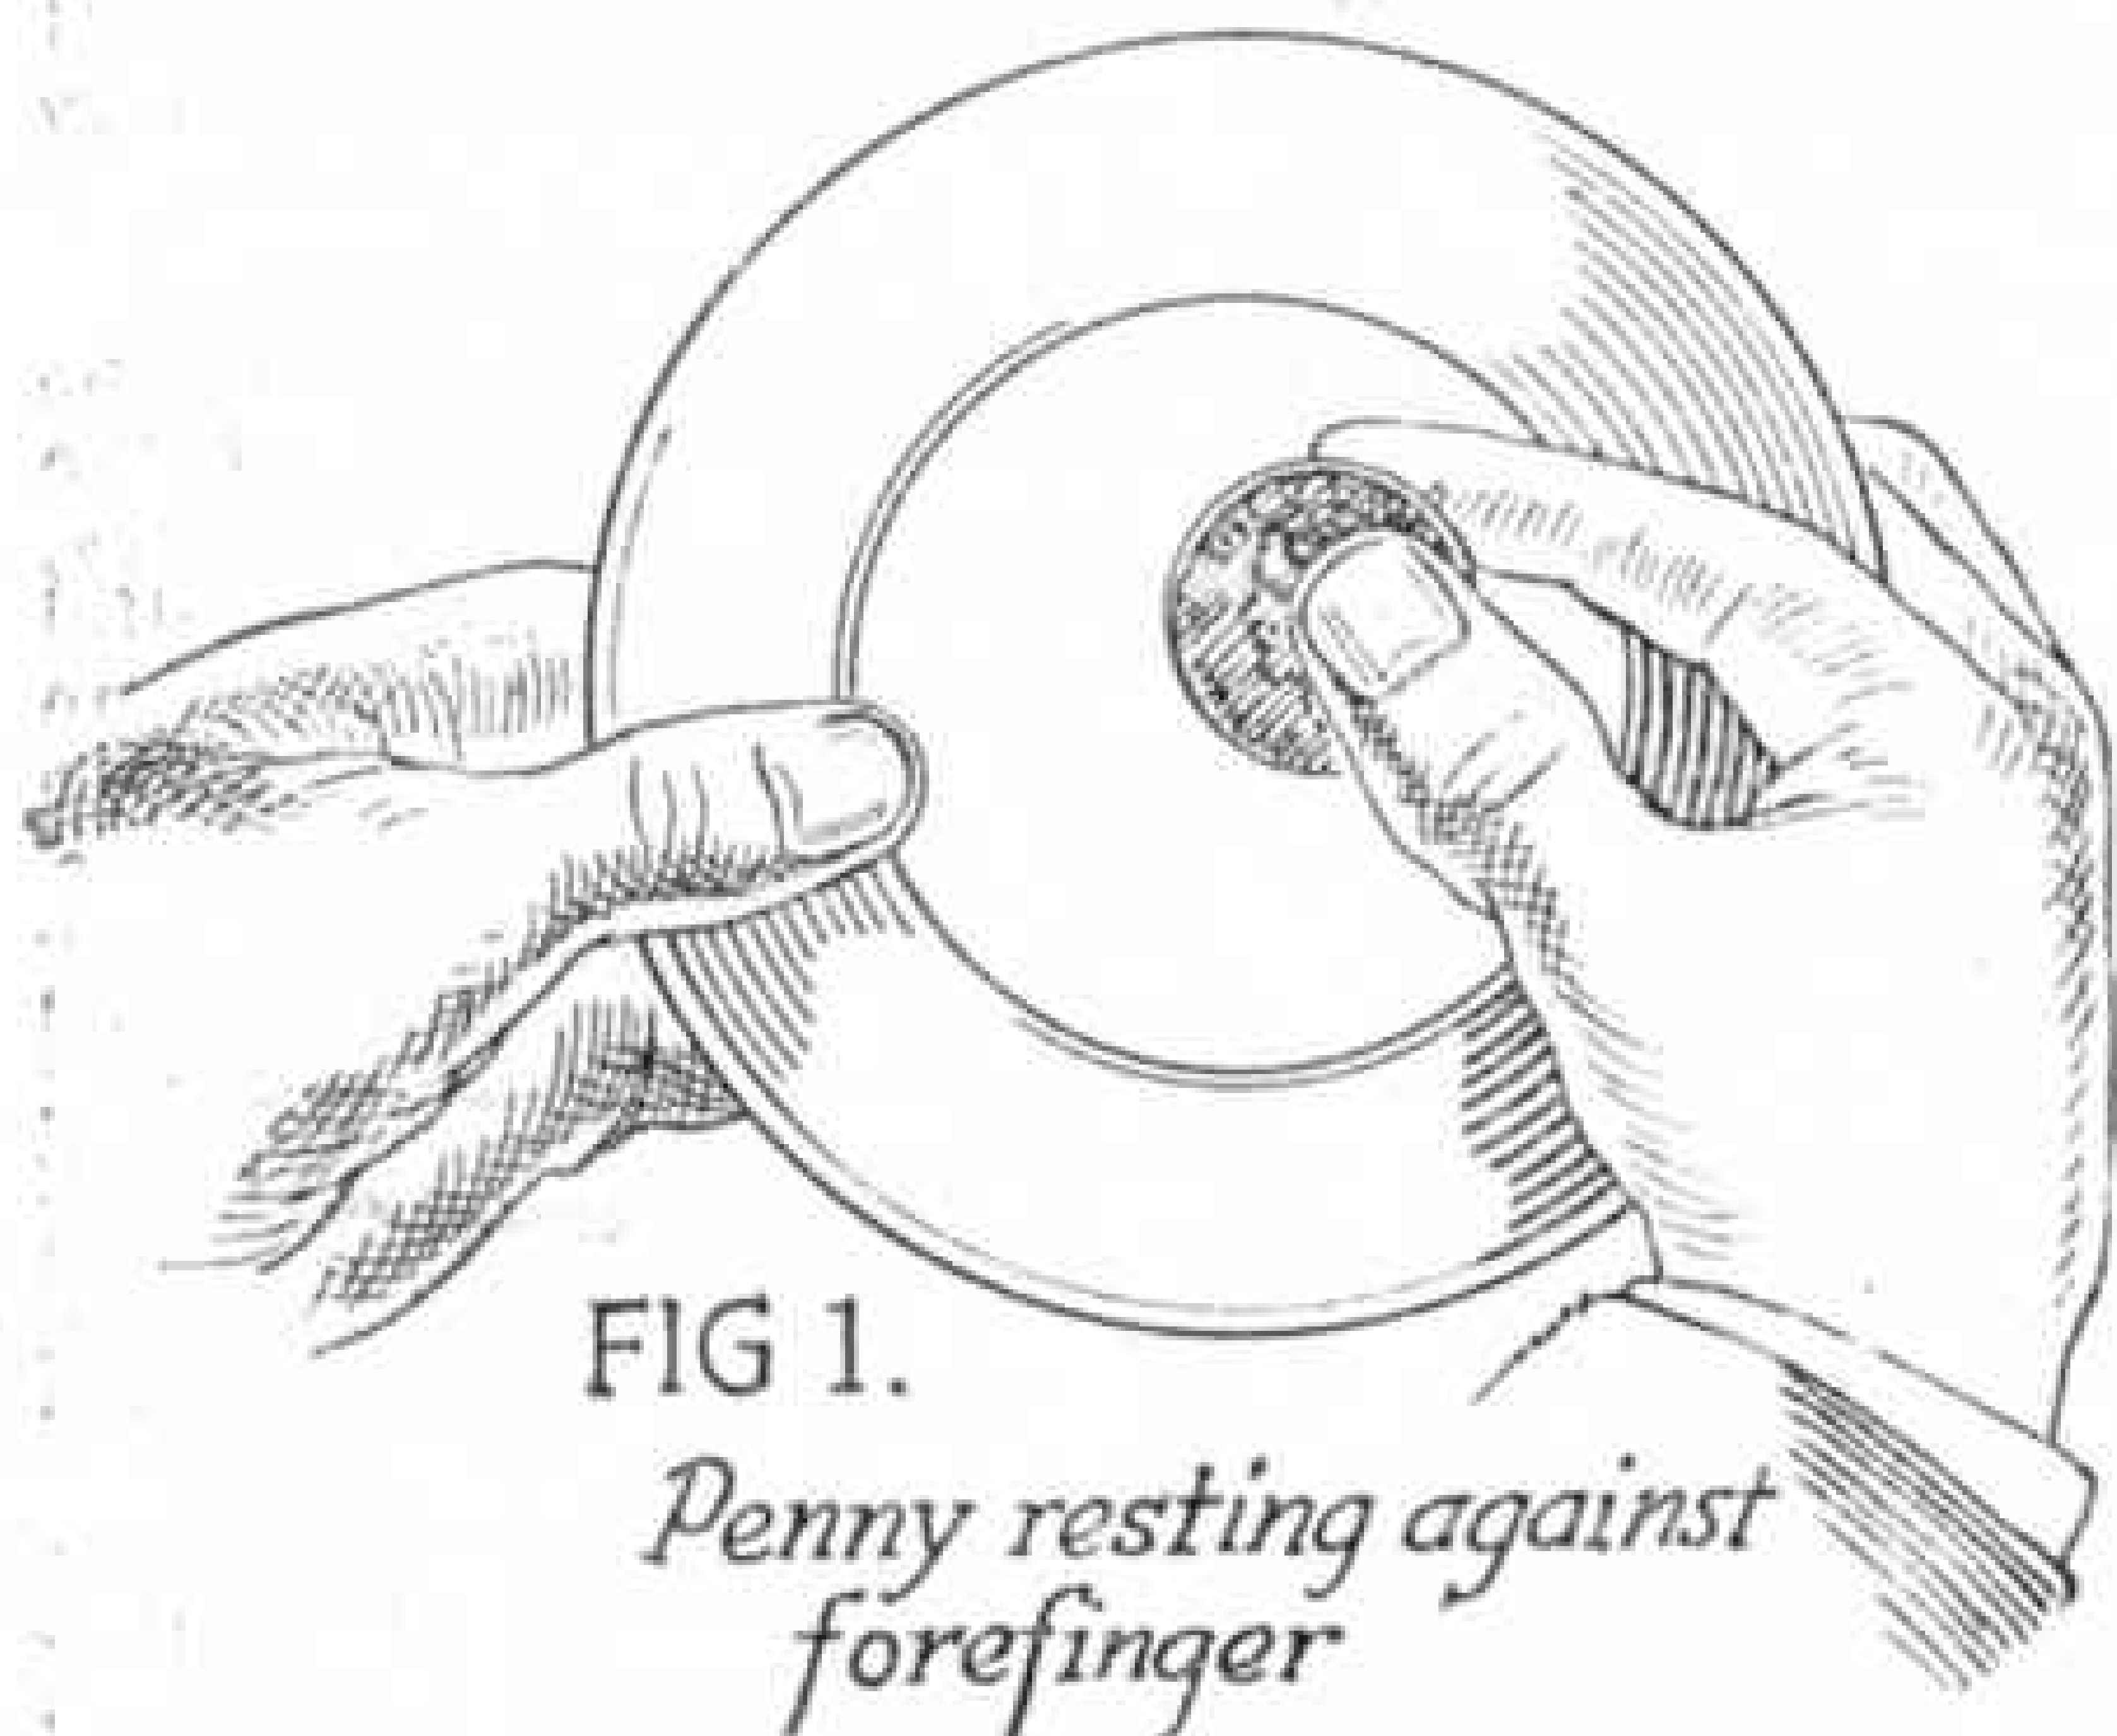

FIG 1.
**How it is Done.** Have a penny concealed in your right hand. There is no need to try to palm it, just hold it loosely in the curve of your fingers. Pick up the plate and hold it with the top facing square to the audience. Place the penny against the bottom of it, the penny resting against the first finger of your hand as shown in Fig. 1. Put the top edge of the plate well into your mouth and make vigorous movements as if trying to bite through a tough crust. At the right moment draw the right forefinger upward, thus letting the penny snap sharply against the plate. The illusion is so perfect that you will get a gasp from your audience and much amazement when you hand out the plate—pocketing the penny—and it is found unbroken.